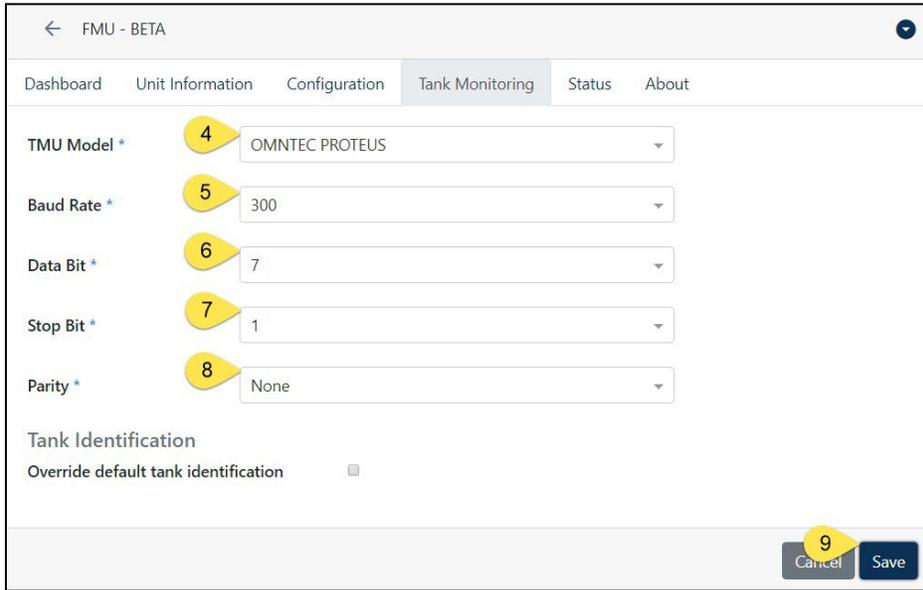

Figure 2
4. Select the TMU Model you will be using (Figure 2).